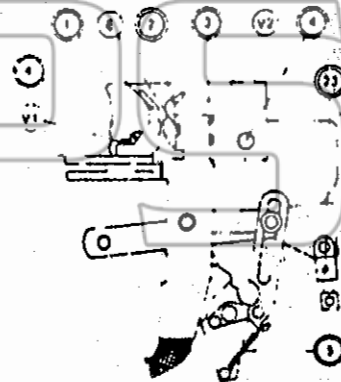

Fig. 6
3. Poles (Fig. 6)
Close breaker and check gap setting of arcing horns. If gap exceeds 1.5mm (0.059 inches), adjust contacts by loosening bolt # V1 (Fig. 6) setting gap to $0.9\text{mm} \pm 0.1\text{mm}$ (0.035 ± 0.004 inches) and tightening bolt by torquing to 0.8mm-kg. (5.8 lb. ft.). Remove both fixed and movable arcing horns along with insulating barriers when thickness of arcing pads erodes to approximately 0.5mm (0.020 inches).